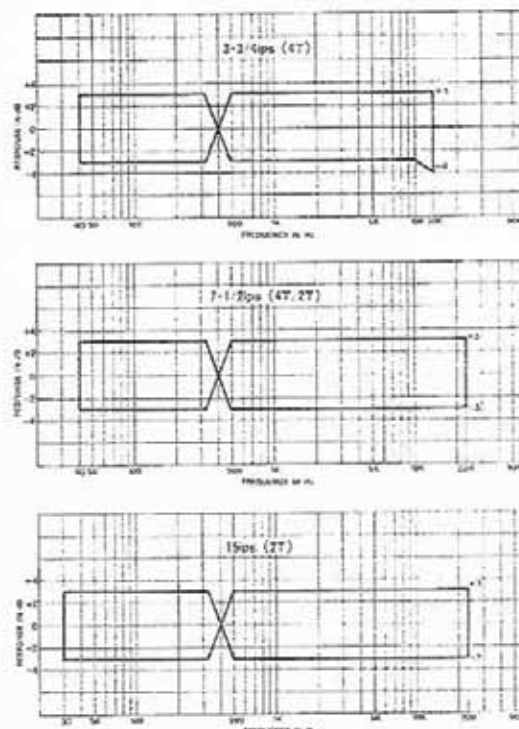

Fig. 8-5 Frequency Response — Playback —
16. Play Tape and compare readings on VTVM with the response limits given in Fig. 8-5.